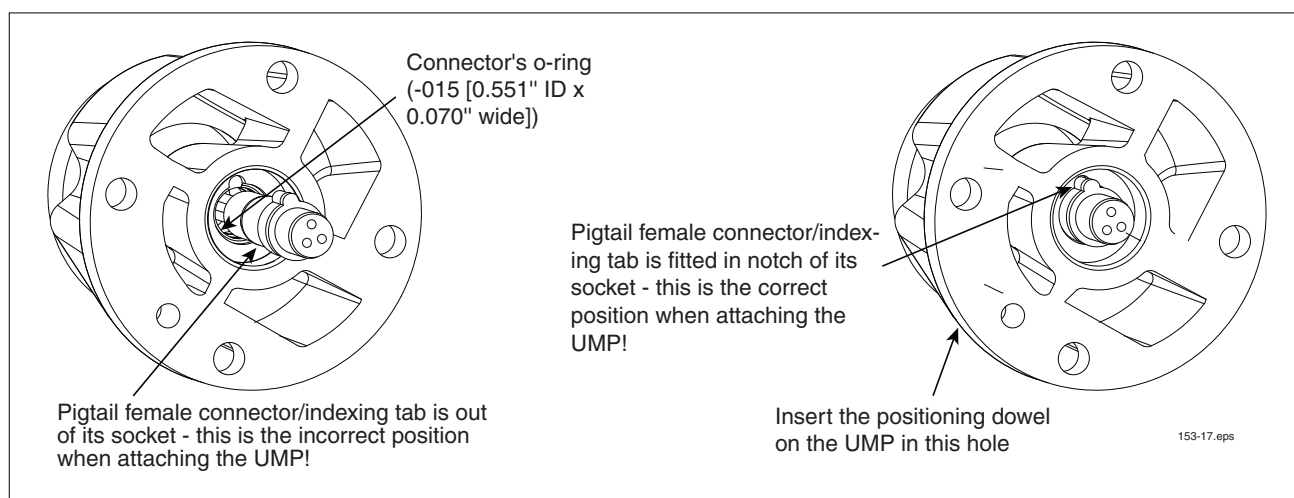

Figure 33. Verifying Pigtail's Female Connector Is Seated Properly
11. Pull the pigtail connector in the discharge head out far enough to see the o-ring in the sidewall of its socket (see Figure 33). Remove the connector's o-ring from the connector's socket and discard it. Get a 0.551" ID x 0.070" wide o-ring from the kit and lubricate it with petroleum jelly. Slide the new o-ring over the pigtail connector and push it in the groove in the wall of the connector's socket. Lubricate the pigtail connector body with petroleum jelly and push it back into its socket, making sure its index tab is in the socket's notch.
12. Align the UMP positioning dowel so it inserts in the proper hole in the discharge head (See Figure 33) and push the UMP into position using hand force only. The UMP should be snug against the discharge head prior to installing the UMP retaining bolts.